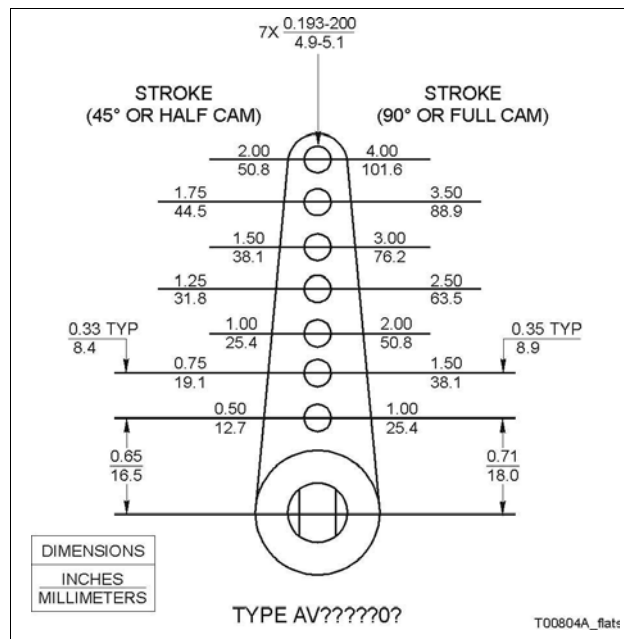
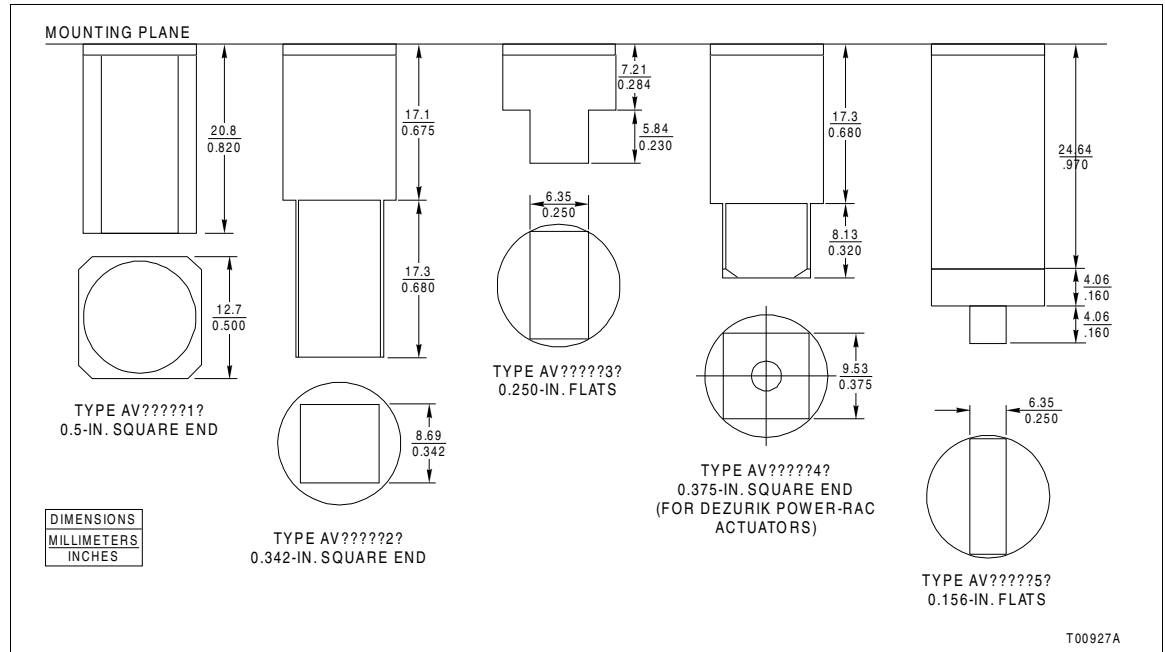

Figure 3-3. Drive Arm Connections
Figure 3-4. Drive Shaft Variations
- Access to the internal positioner adjustments — the mounting location should provide enough room to remove the cover in order to perform calibration and repair and replacement procedures inside the positioner. Refer to Figure 3-1 for positioner dimensions. Figure 3-2 shows the electrical connections, Figure 3-3 shows the dimensions of the drive arm connections and Figure 3-4 shows the drive shaft variations.
1. Set the actuator at the zero position. Connect the adjustable linkage to the drive arm. The drive arm holes correspond to stroke length of the actuator. Refer to Figure 3-3 for the stroke length for each drive arm hole.